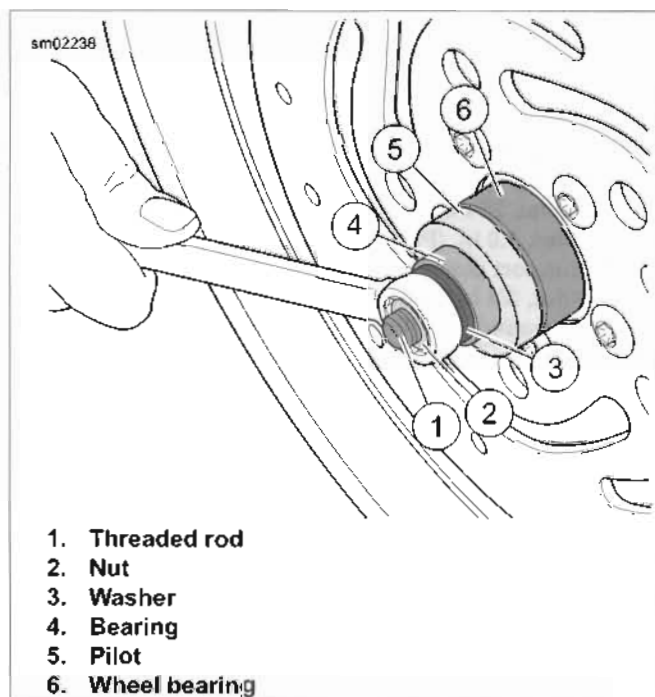

Figure 2-28. Installing Bearings
- c. See Figure 2-28. Place the **new** bearing (6) on rod (1) with lettered side facing away from wheel centerline. ABS bearing with greenish tan side against pilot (5).
- d. Install pilot (5), bearing (4), washer (3) and nut (2) over rod.
2. Hold hex end of threaded rod (1) and turn nut (2) to install bearing (6) into primary side of hub. Bearing will be fully seated when nut can no longer be turned. Remove tool.